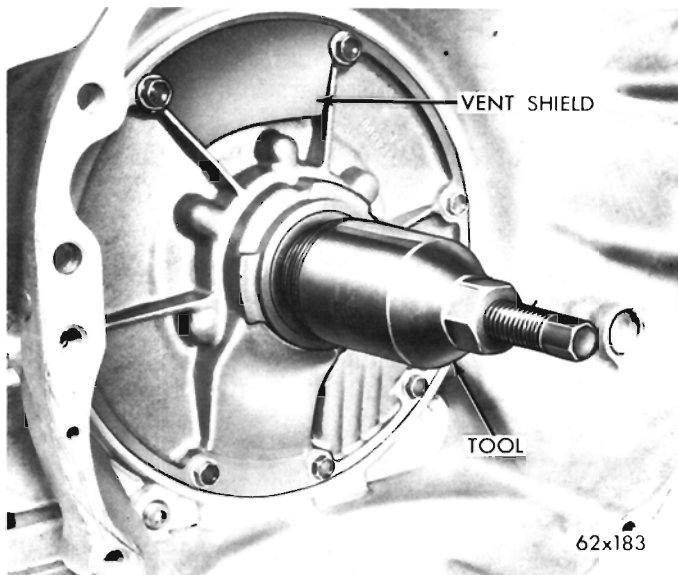

Fig. 63—Removing Front Pump Oil Seal
NOTE: The vent shield is not used or required on the A-904-G and A-904-LA front pumps. See Figures 63 and 64.
(1) **A-904-G and A-904-LA:** Screw seal remover Tool C-3758 into the seal (Fig. 63), then tighten screw portion of the tool to withdraw the seal.